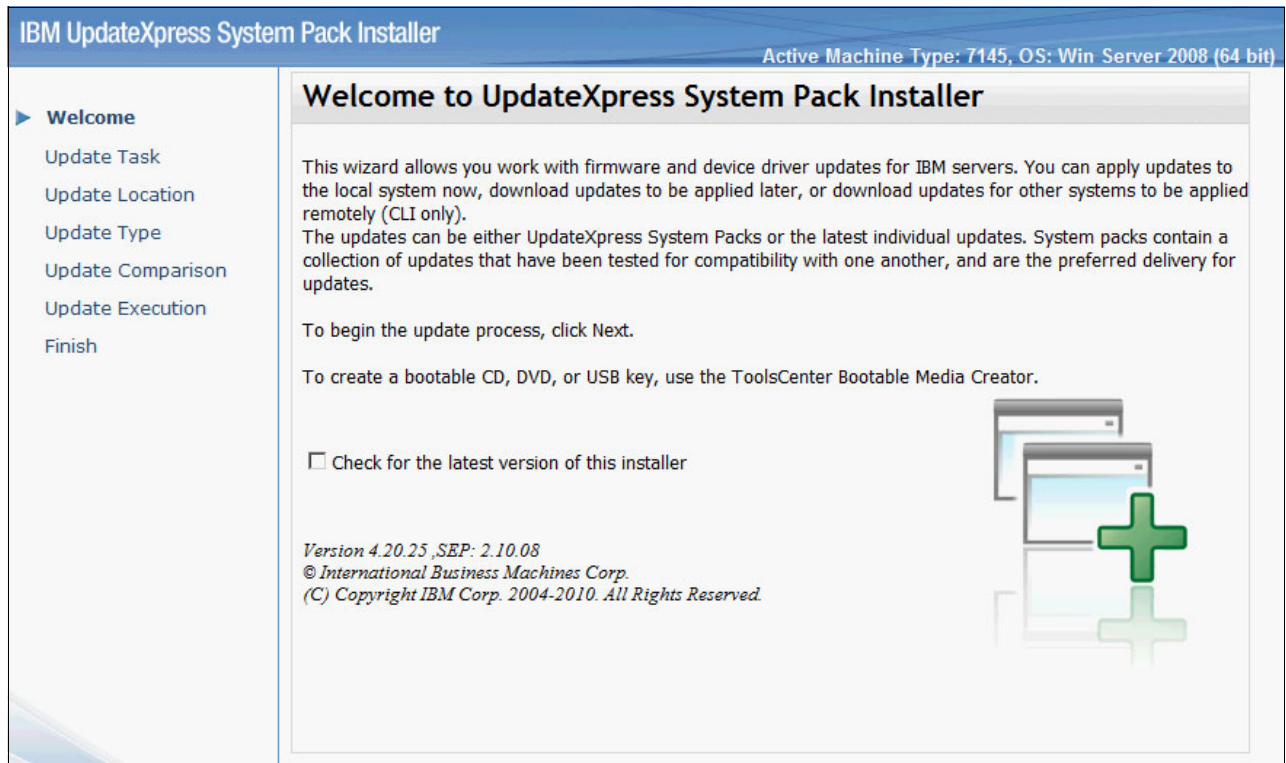

Figure 9-63 Welcome window
3. The Welcome window opens, as shown in Figure 9-63 on page 512. Click **Next**.